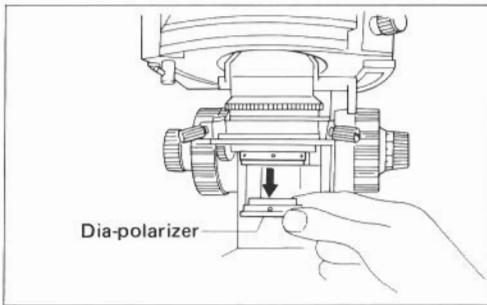

Fig. 25
- The dia-polarizer rotates 360°, and can be detached from the substage by pulling downward. (Fig. 25)